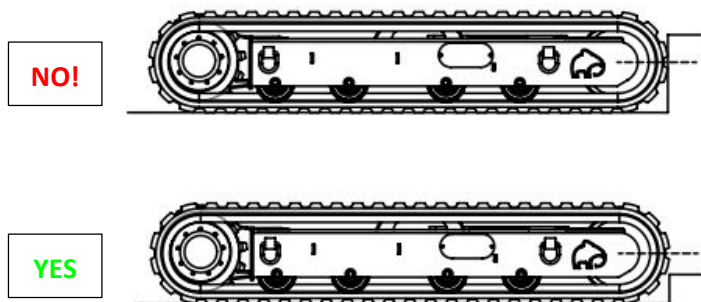

Fig. 7.5-5 - Examples of obstacle crossing: height of the obstacles that the crawlers can overcome
- It is prohibited to pass over obstacles which exceed the centreline of the crawler (Fig. 7.5-5).